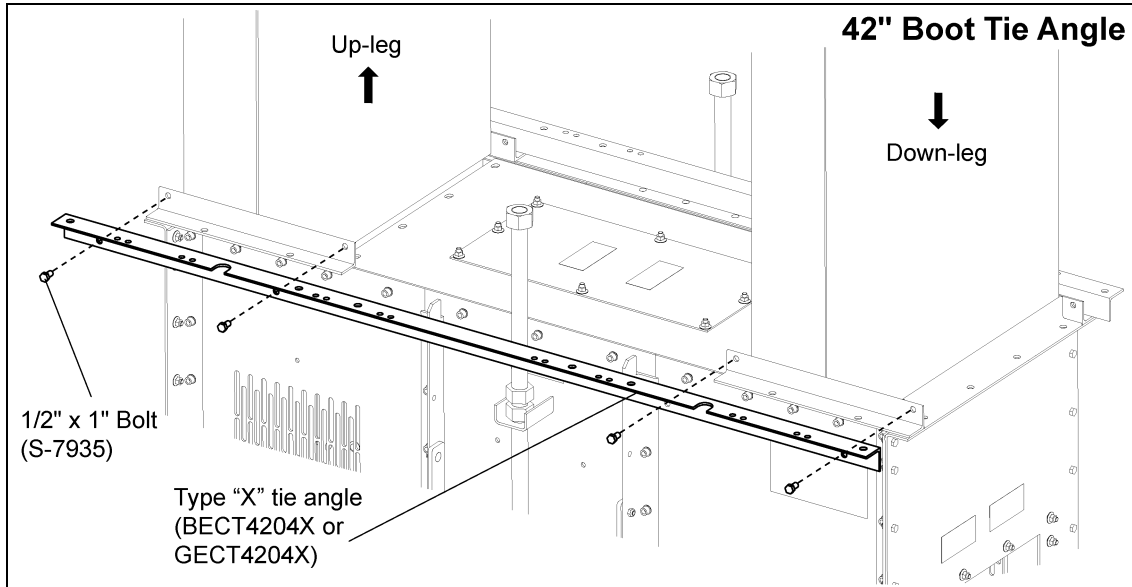

Figure 6A 42" Boot Tie Angle
- a. **For 42" Boot Tie Angle:** Install the tie angle (GECT4204X or BECT4204X) to both sides of the trunking attached at the boot using 1/2" x 1" HHCS bolts (S-7935) and 1/2" flange nuts (S-8506). (See Figure 6A.)